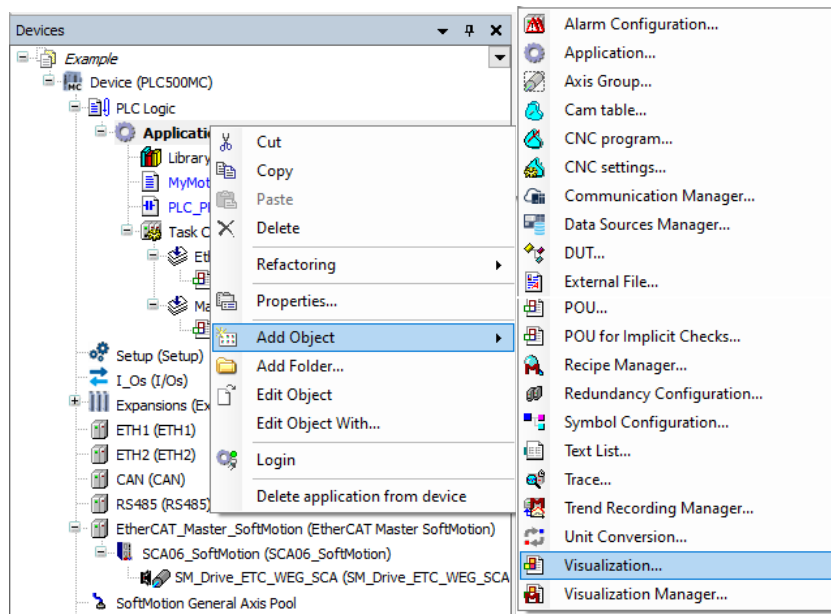

Figure 3.4: Add a **Visualization** object.
- Add a **Visualization** object to the device tree, as shown in Figure 3.4.